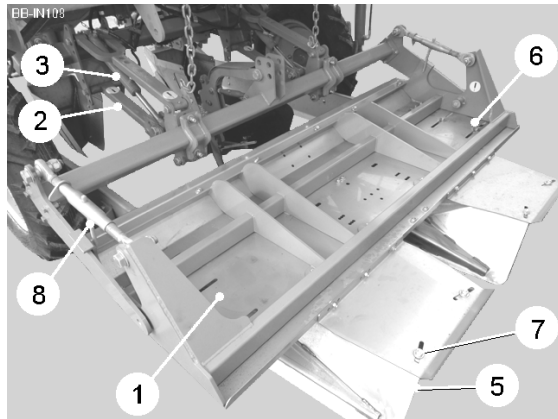
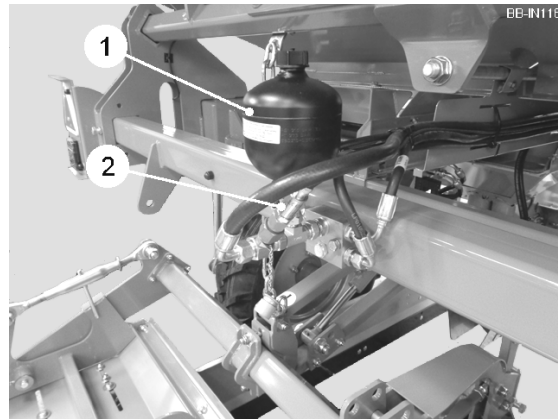

Fig. 13
Fig. 14
The adjustable moulding board (item 1, fig. 13) is mounted to the rear of the planter via the parallel linkage arms (item 2, fig. 13). The pressure exerted by the board is controlled from the touch-screen terminal. In manual mode, the board will rest on the bed under its own weight (float) and the ram(s) (item 3, fig. 13) will open and close freely as the moulding board rises and falls. In automatic mode, additional hydraulic pressure is added to the moulding board by the accumulator (item 1, fig. 14) and pressure transducer circuit (item 2, fig. 14). For hydraulic pressure adjustment see 'Moulding Board Pressure' in the TOUCH-SCREEN OPERATION section of this handbook.
The position of the wings (item 5, fig. 13) is important to ensure a nicely formed bed. The outer wings are adjustable for both position and angle. The position of the wing determines the width of the finished bed. To adjust, loosen the mounting bolts (item 6, fig. 13) and slide the outer wing assembly to the required position.
The angle at which the wings operate will determine the shape of the bed. To adjust, loosen the retaining bolt (item 7, fig. 13) and rotate the wings to the required position. The top links (item 8, fig. 13) set the moulding board angle. Initially, the angle should be set at approximately 5° from horizontal. Increasing the angle will allow more soil under the board.